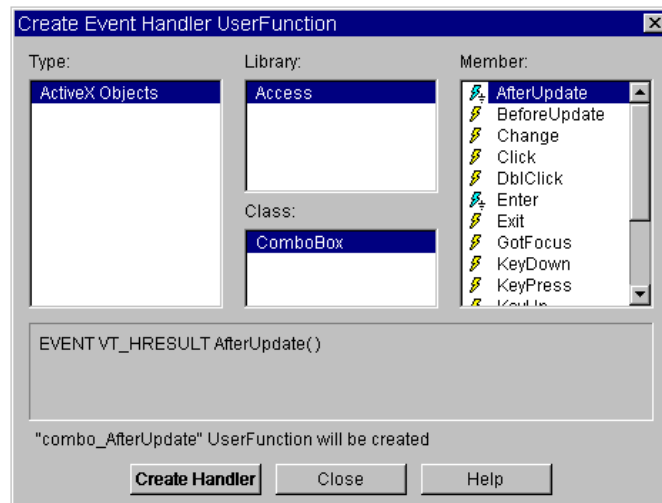

**Figure 13-6. Create Event Handler UserFunction browser**
2. In the object menu, click `Create Event Handler...` The `Create Event Handler UserFunction` browser appears. See Figure 13-6